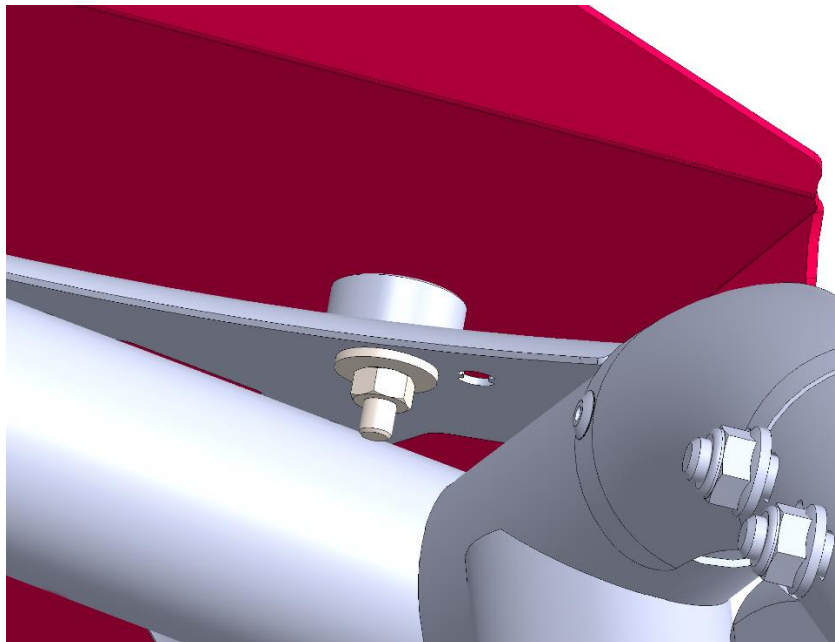

Figure 5-1
5. Secure the rear section of the roof in place by placing the roof spacer underneath the roof and above the roll cage on both sides. Attach using the M6x1.0x30 bolts again using an M6 washer on the top of the roof and on the larger M6 washers on the bottom of the roll cage along with an M6 nylon locknut. Hand tighten only at this time.(fig 5-1)